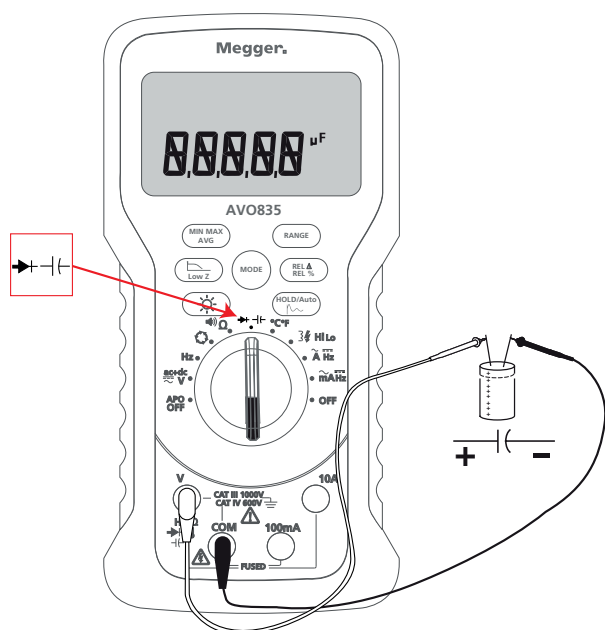

Fig 6: Capacitance Measurement Set-up
2. Set-up the instrument as shown in Fig 6.